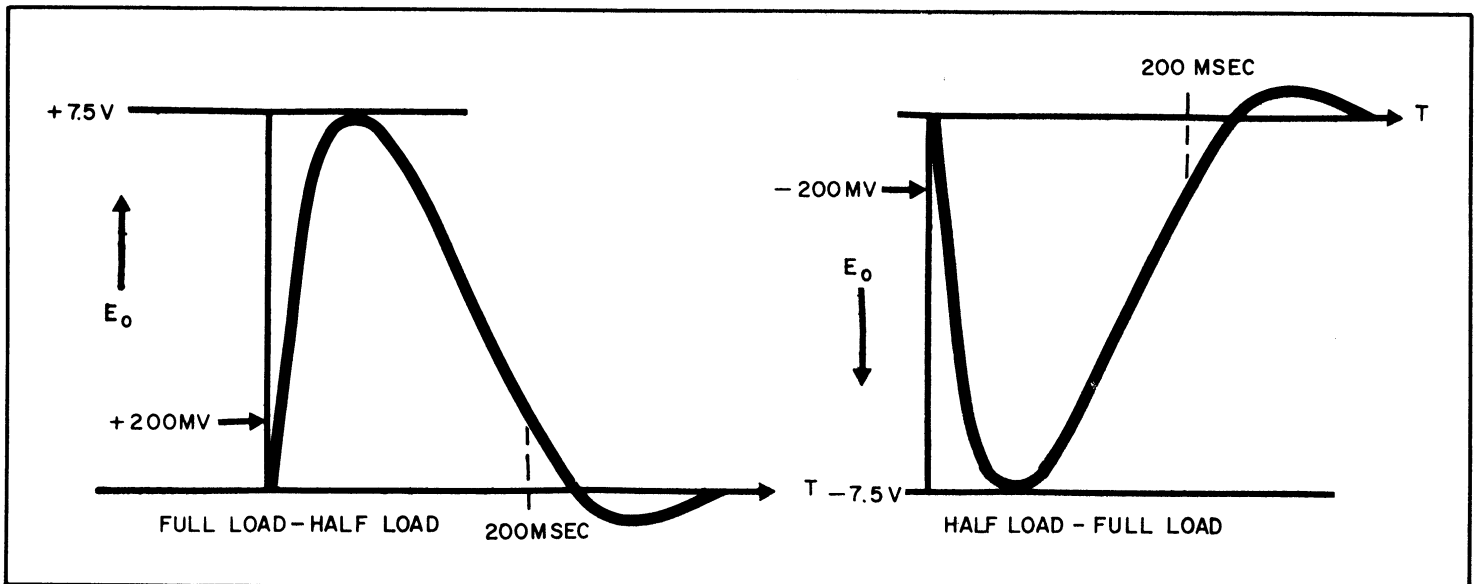

Figure 5-5. Transient Recovery Time, Waveform
- e. Oscilloscope display should be as shown in Figure 5-5.